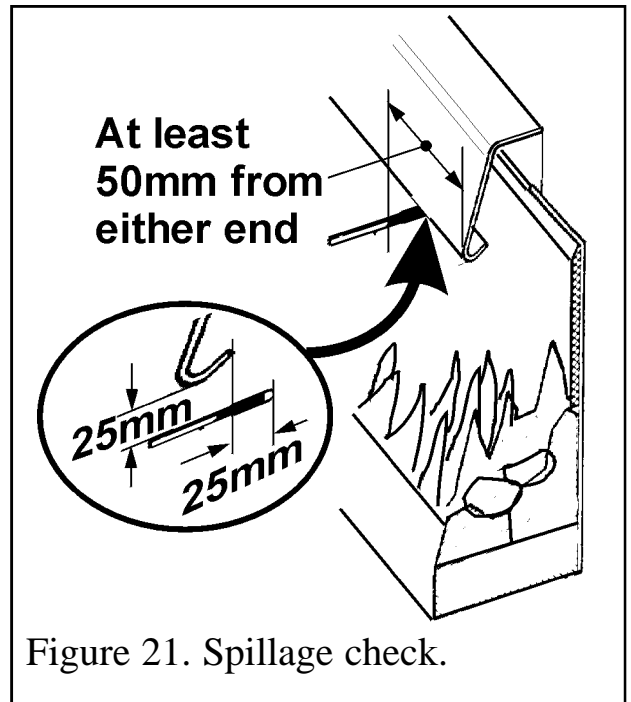

Figure 21. Spillage check.
4. Place the smoke match into the appliance canopy (See figure 21).